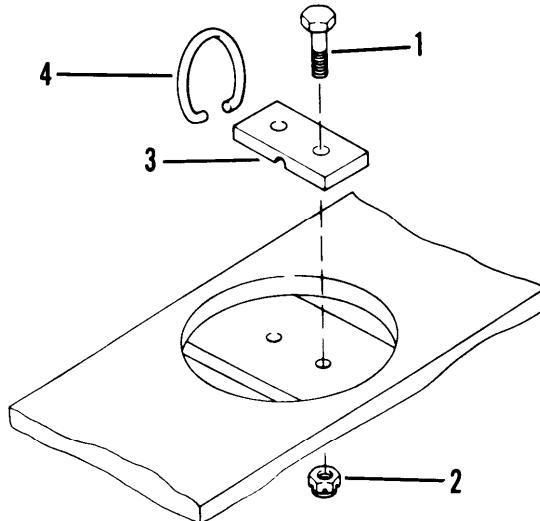

Figure 4-50. Tiedown Ring
(1) Remove two bolts (1, fig. 4-50) and locknuts (2) from tiedown ring bracket (3).
(2) Remove bracket (3) and tiedown ring (4).
(3) Repeat steps 1 and 2 for other tiedown rings as needed.
(1) Install tiedown ring (4, fig. 4-50) and bracket (3).
(2) Secure bracket (3) with two bolts (1) and locknuts (2).